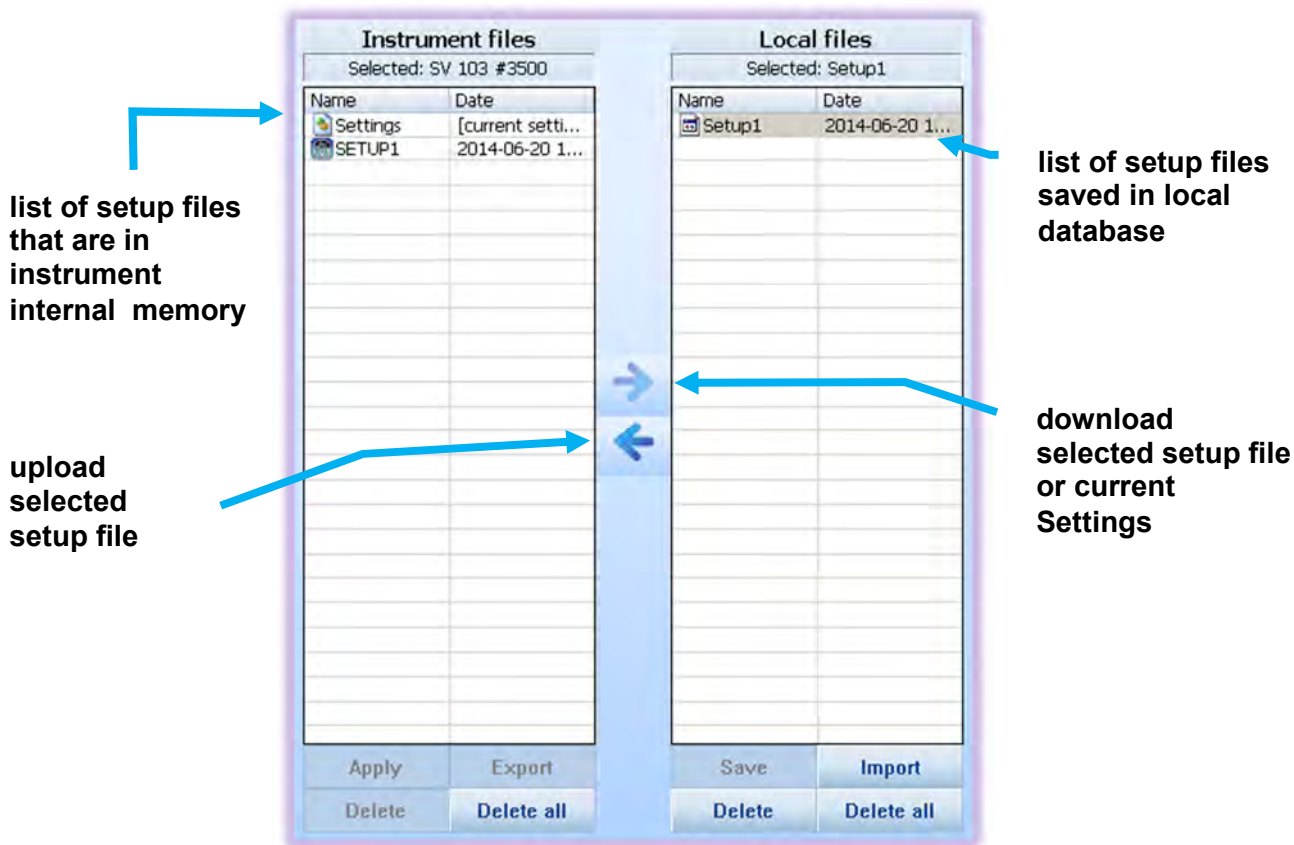

Figure 5-4 Setup files manager panel
1. Select the “**Settings**” row position in left side panel named “**Instrument files**” (Figure 5-4)
2. Click the right arrow pictogram to download instrument “**Settings**” configuration setup to “**Local files**” right side panel (Figure 5-4)
5. Once configured, come back to setups file manager (Figure 5-4) and click the just edited **"Settings"** in **"Local files"** panel
6. Next click the "save" button in bottom area of the panel (Figure 5-4)